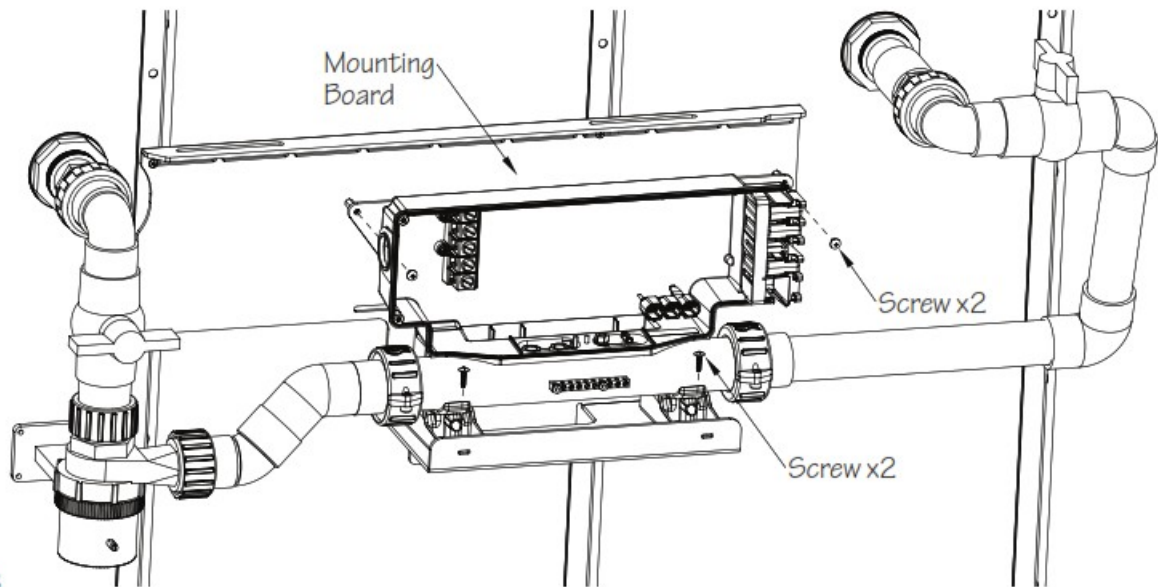

Fig. 8
- Remove the four screws that secures the controller to the Mounting Board (Fig. 8).